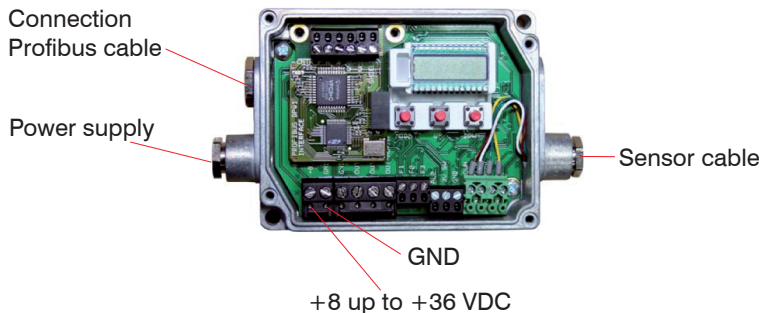

Fig. 20 Commissioning Profibus
- Open the controller and connect the power supply, see Fig. 20.